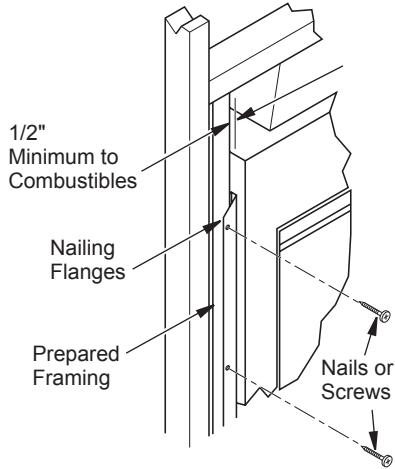

Figure 8 - Nailing Flanges
6. Using screws or nails, secure fireplace to the framing through flanges located on sides of the fireplace (see Figure 8).